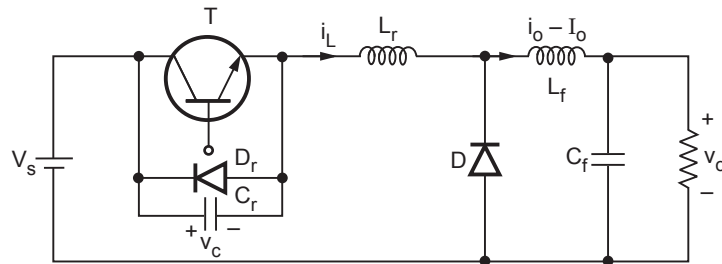
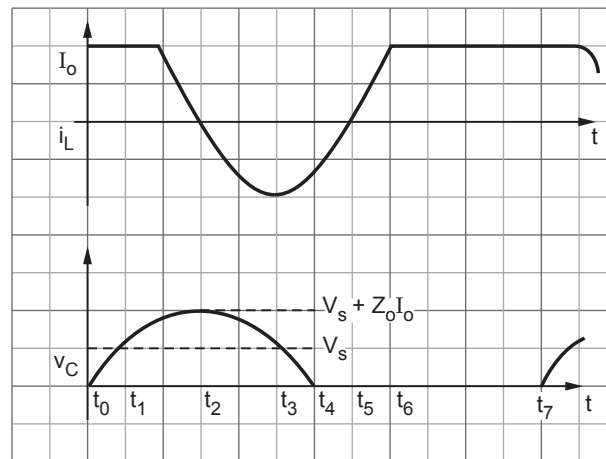

Fig. 5.7.5 ZVS DC-DC converter
Fig. 5.7.6 Waveforms of ZVS DC-DC converter
- **Circuit diagram and waveforms** : Fig. 5.7.5 shows the circuit diagram and Fig. 5.7.6 shows the waveforms of the ZVS converter.